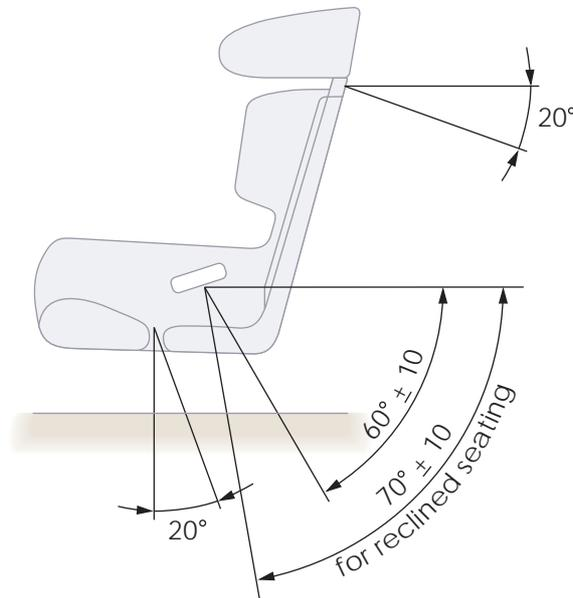

Figure 4. Side view to show recommended belt angles
**2.4** The rear section of the shoulder strap should slope downwards from the uppermost point of contact with the HANS®-belt-bearing-surface to the anchorage point on the car, preferably at about 20° below the horizontal, angles between 0° and 20° being acceptable as shown in Figure 4.